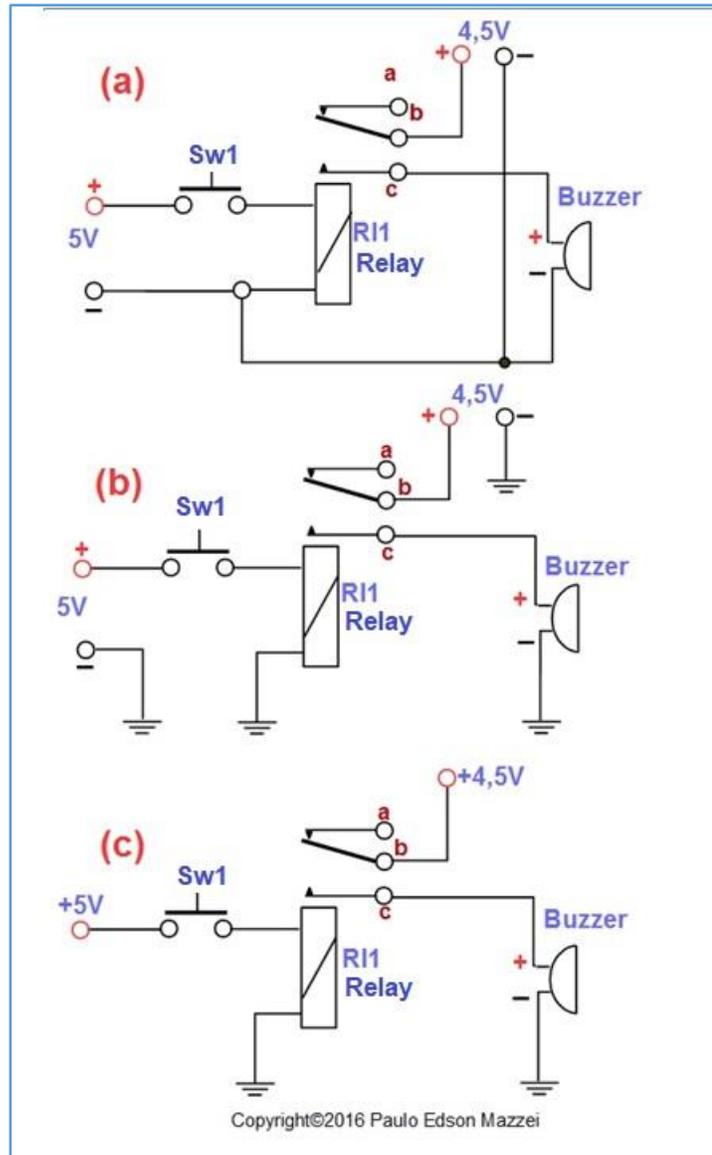

Figure 92 - Common point concept and diagram drawing.
Please note drawings (a), (b) and (c) of figure 92:
- e. . Look at the drawing (c) of **figure 92** and note that the drawing is much simpler, with no connection needs that are obvious.